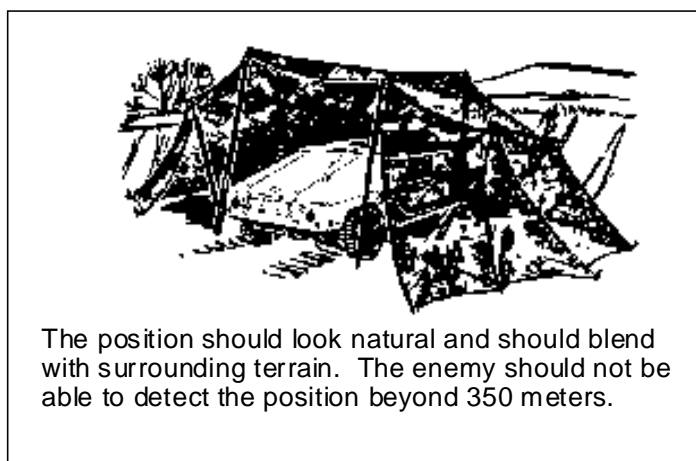

Figure 1. Hull defilade with camouflage net.
- (1) Raise the nets above the top of the vehicle. To keep the nets above the vehicle, use poles or small tree branches for support.
- (2) If the vehicle is in a hull-defilade position, ensure that the vehicle outline is broken and that the net drapes over the vehicle and blends with the surrounding terrain (Figure 1).